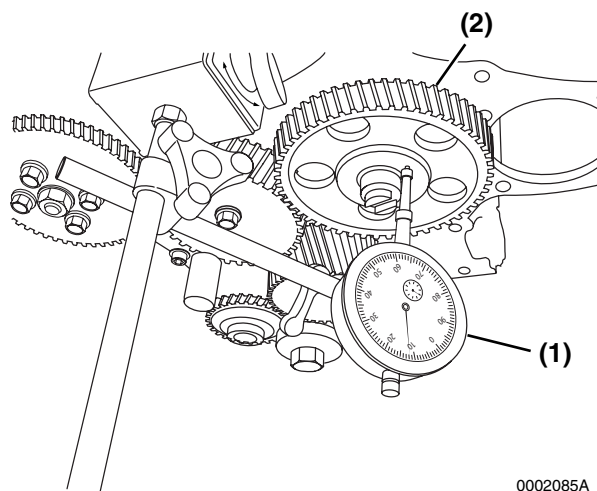

Figure 6-92
- Method A:** Install a dial indicator (**Figure 6-92, (1)**) on the cylinder block. Move the camshaft (**Figure 6-92, (2)**) back and forth to measure the end play. Record the measurement. See *Camshaft* on page 6-10 for the service limit.